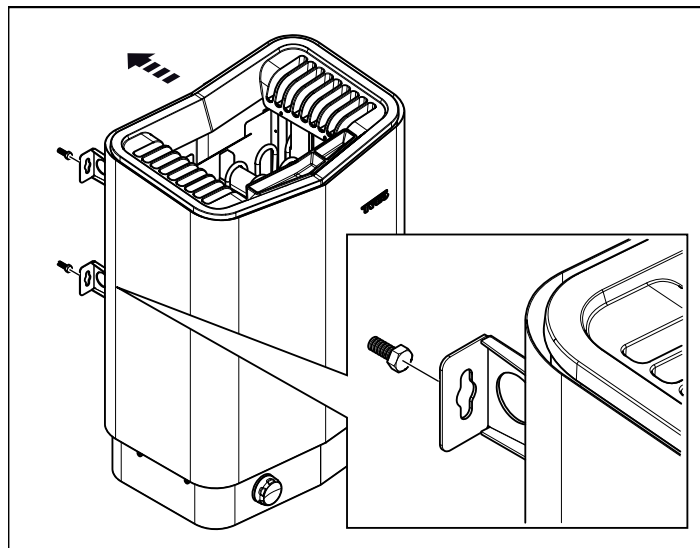

Figure 10: Hang the heater up.
8. Hang the heater on the screws see Figure 10, Page 7.